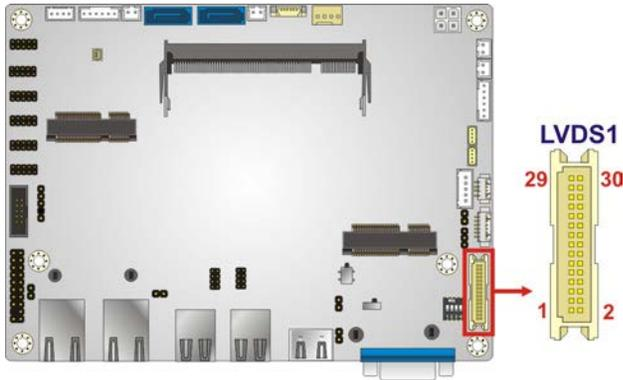

Figure 3-16: LVDS Connector Location
- CN Location:** See Figure 3-16